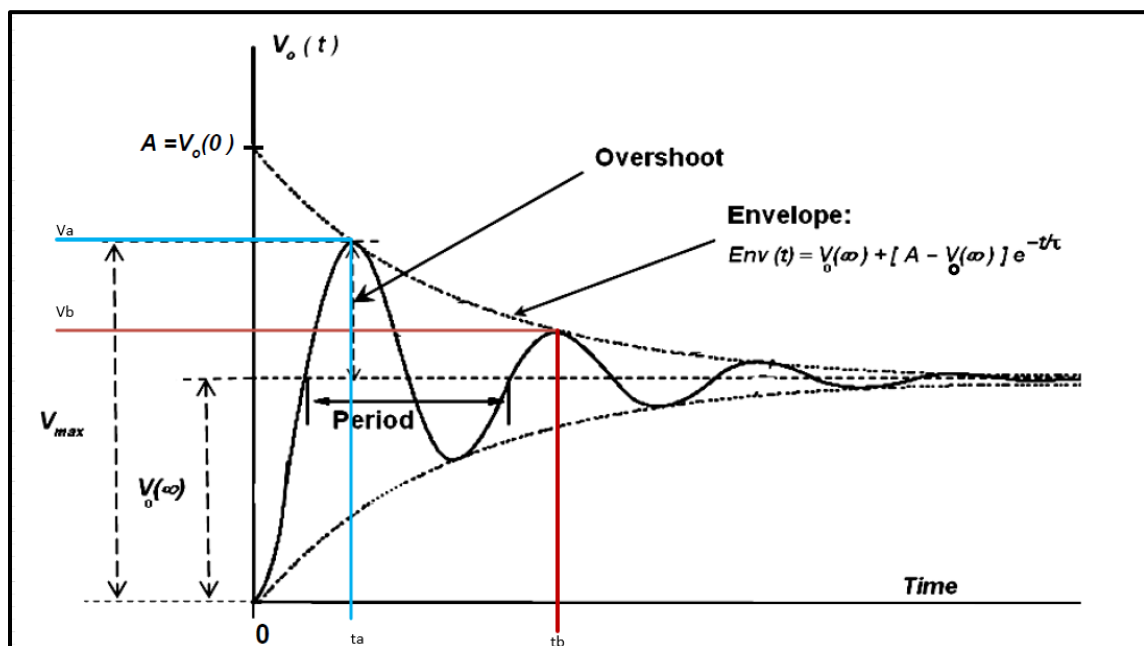

Figure 6.4: Example of calculating α and ω_d of underdamped response
3. For $R = 500 \Omega$, calculate the roots of the characteristic equation, **showing the value of α and ω_d** and write an expression for $V_C(t)$. Use PSPICE to do transient analysis of the circuit, show $V_C(t)$, and measure **α and ω_d using cursors as shown in figure 6.4.**
1. For $R = 4 \text{ k}\Omega$, calculate the roots of the characteristic equation **showing the value of α and ω_d** . Write an expression of $V_C(t)$. Use PSPICE to do transient analysis of the circuit, show $V_C(t)$, and measure **α and ω_d using cursors as shown in figure 6.4.**
2. Use cursors to find the values of V_a , t_a , V_b , t_b , and $V(\infty)$, as shown in figure 6.4, record results in Table 6.1.
2. Use cursors to find the values of V_a , t_a , V_b , t_b , and $V(\infty)$, as shown in figure 6.4, record results in Table 6.2.